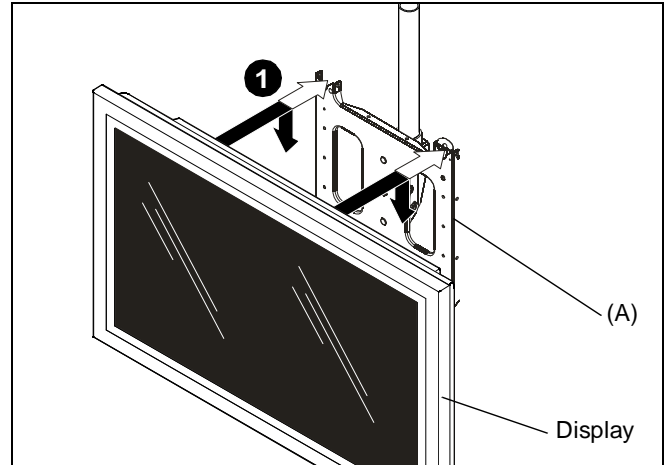

Figure 2
1. While supporting both sides of display, align four mounting buttons on display or interface bracket with four mounting holes in mount. (See Figures 2, 3 and 4)
2. Lower display into place listening for audible "click" to ensure recessed area of mounting buttons are properly seated in lower area of mounting holes and ClickConnect mechanism has engaged. (See Fig. 2, 3 and 4)